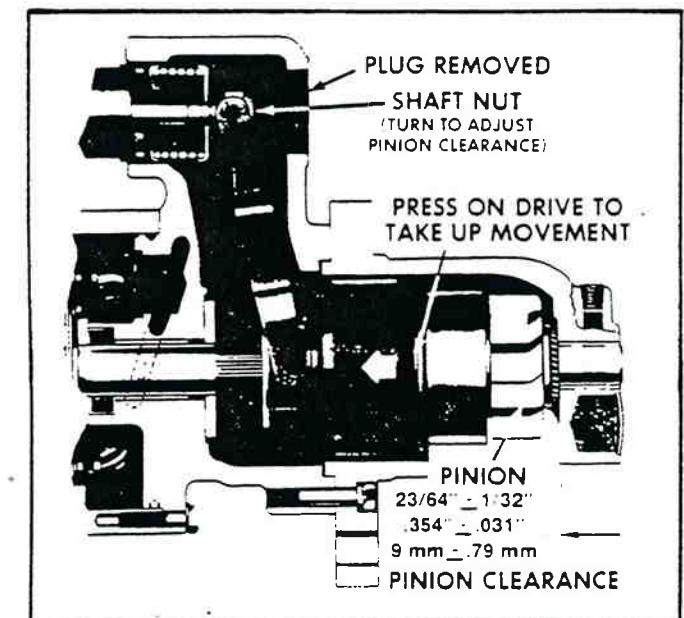

Figure 7-46. Checking Pinion Clearance (42MT).
6. Adjust clearance by removing plug and turning shaft nut (shown in figure 7-46) Although typical specifications are shown, always refer to 1M-188 for specifications applying to specific models
4. Measure the distance between drive and housing (figure 7-46).
5. Adjust clearance by removing plug and turning shaft nut (figure 7-46). Although typical specifications are shown, always refer to 1M-188 for specifications applying to specific models